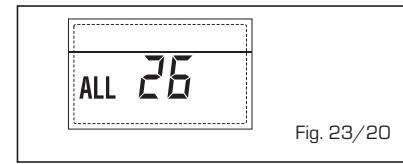

Fig. 23/20
- ANOMALIA COERÊNCIA APLICAÇÕES SOLAR "ALL 27" [fig. 23/21]